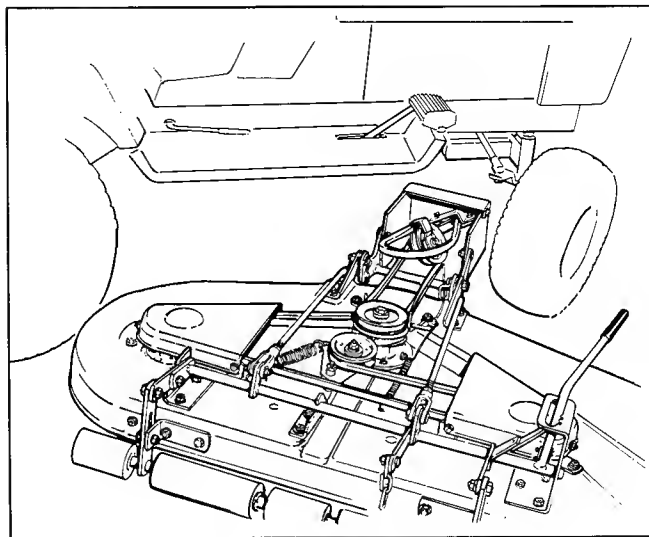

Figure 5. Installing 42" Mower
3. Slide the front of the mower hitch between the front wheels, then slide the left side of the mower housing underneath the tractor (see figure 5).